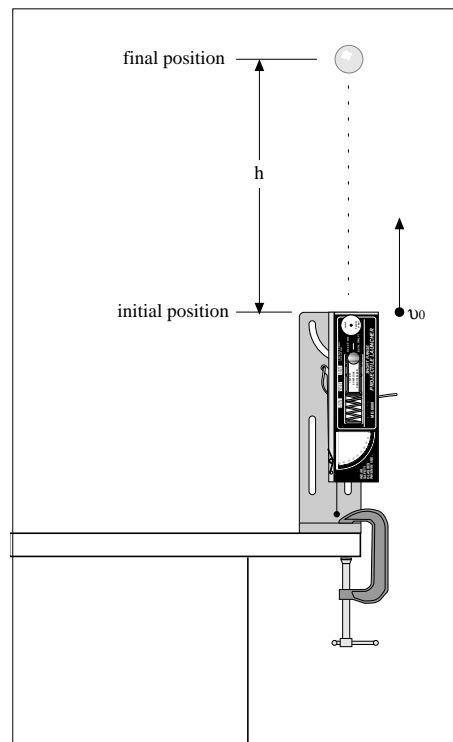

Figure 5.1 Conservation of Energy
The total mechanical energy of a ball is the sum of its potential energy (PE) and its kinetic energy (KE). In the absence of friction, total energy is conserved. When a ball is shot straight up, the initial PE is defined to be zero and the  $KE = (1/2)mv_0^2$ , where  $m$  is the mass of the ball and  $v_0$  is the muzzle speed of the ball. See Figure 5.1. When the ball reaches its maximum height,  $h$ , the final KE is zero and the  $PE = mgh$ , where  $g$  is the acceleration due to gravity. Conservation of energy gives that the initial KE is equal to the final PE.
- ① Clamp the Projectile Launcher to a sturdy table near one end of the table with the Launcher aimed away from the table. See Figure 5.1.
- ② Point the Launcher straight up and fire a test shot on medium range to make sure the ball doesn't hit the ceiling. If it does, use the short range throughout this experiment or put the Launcher closer to the floor.
- ③ Adjust the angle of the Projectile Launcher to zero degrees so the ball will be shot off horizontally.